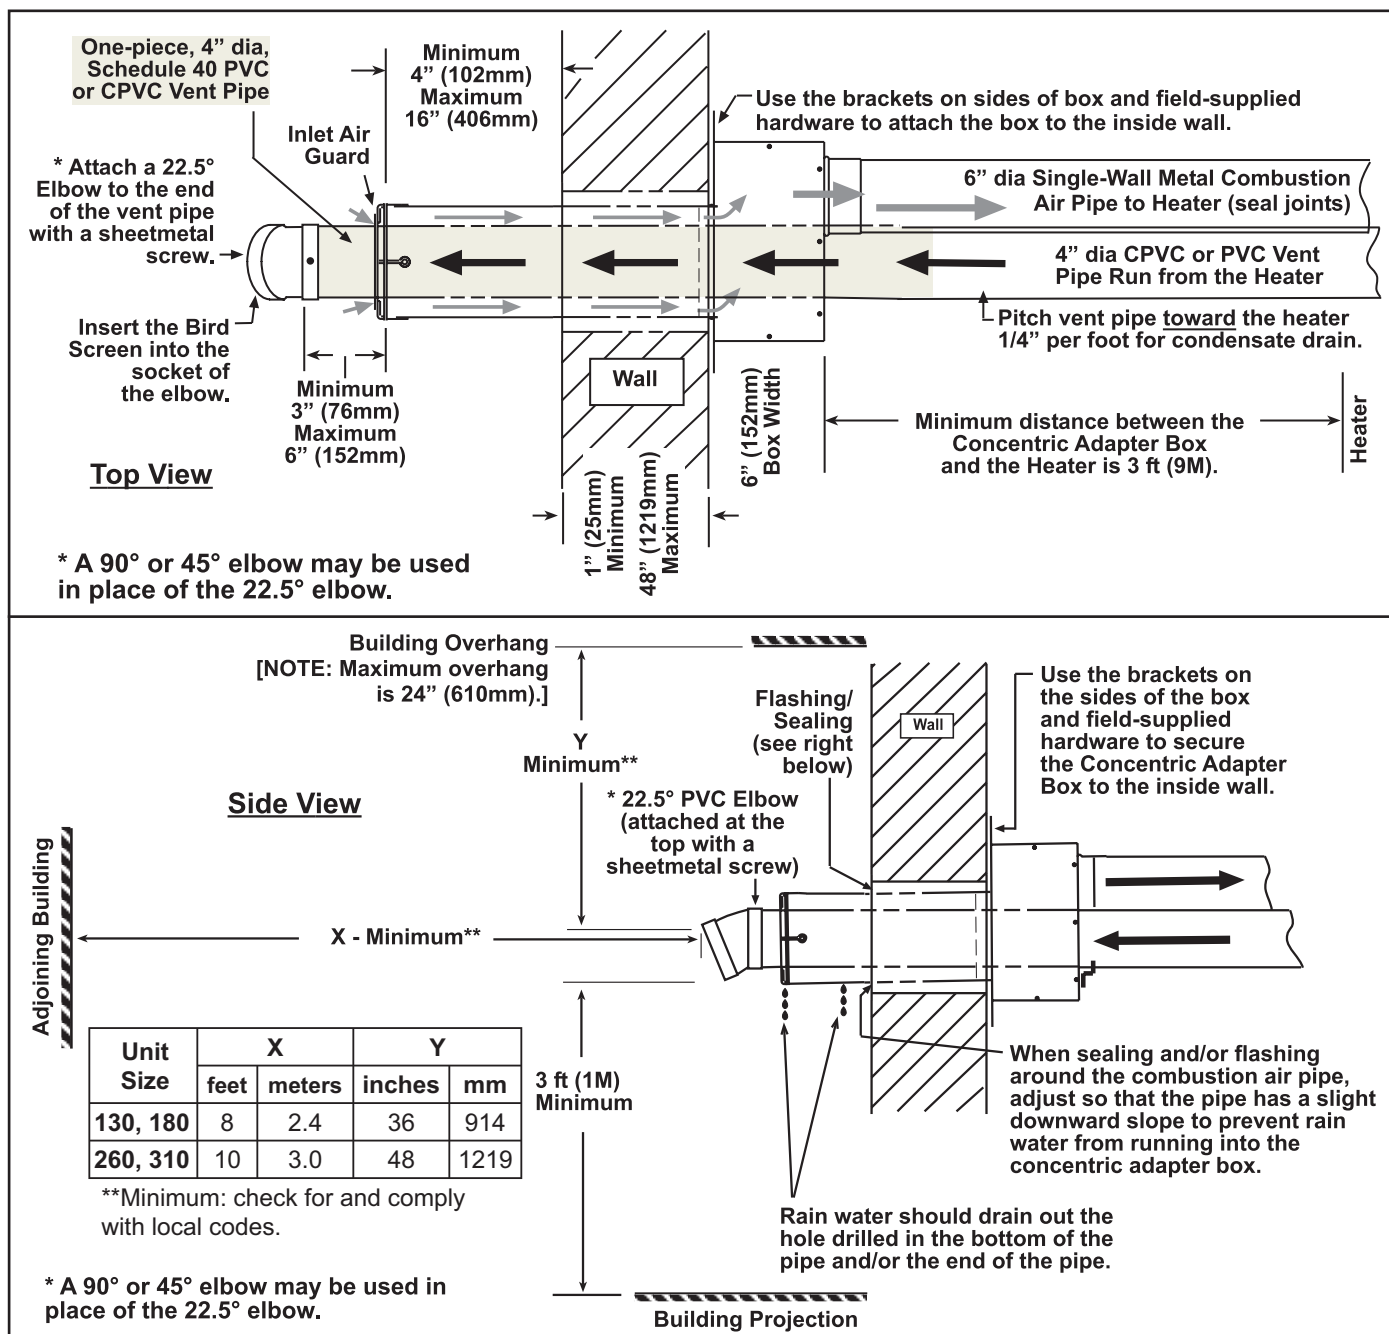

Figure 18. Option CC6 Installation
4. Connect concentric adapter box (see Figure 18):
- a. Position inlet air ring guard over end of combustion air pipe in accordance with Figure 18.
- a. Refer to **Figure 18** to determine lengths of each pipe segment and to calculate total length required.
12. Verify compliance with **Figure 18** and with all specifications listed in **VENTING AND COMBUSTION AIR REQUIREMENTS** and **Halogenated Hydrocarbons** sections.